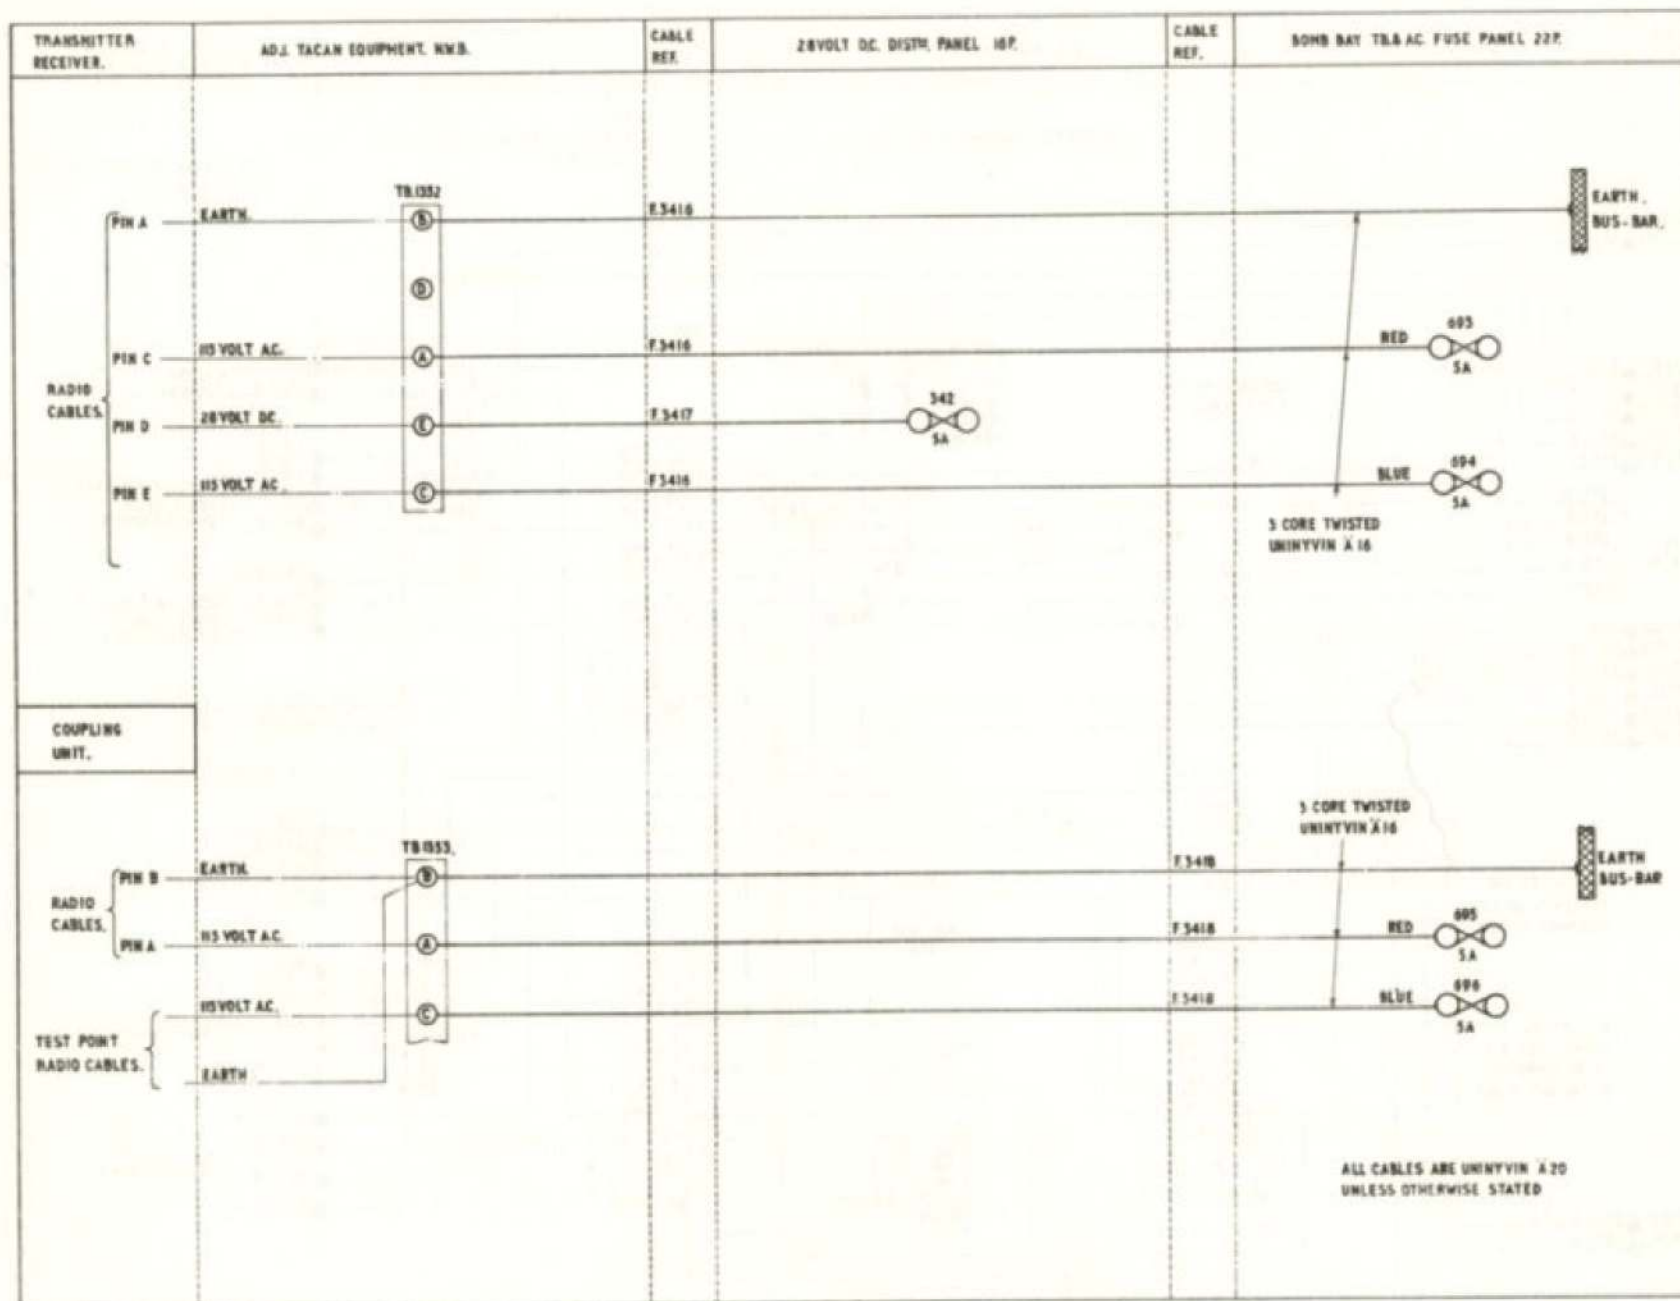

Fig.17 Supplies for A.R.I. 18107/13
45. The supplies for the Tacan installation are shown in the routing chart fig.17. ▶